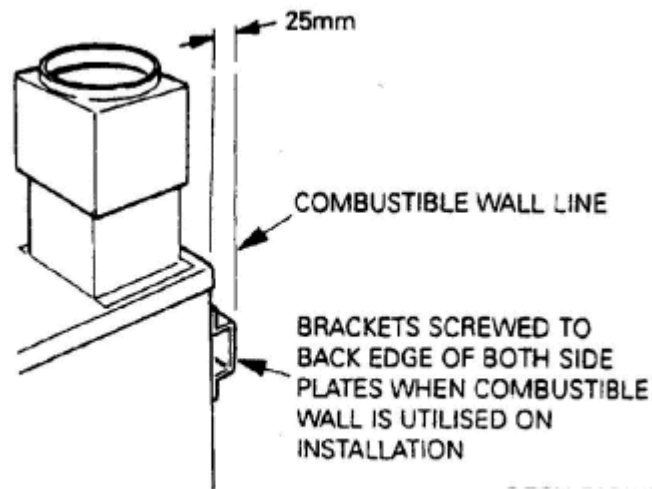

Fig.6 Clearance Between Cooker and Combustion Wall DESN 510119
5. Appliance rear distance bracket - For use when the appliance is installed near a rear wall or combustible material - See Fig.6.